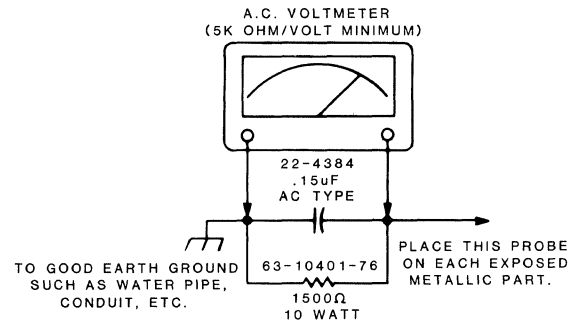

Figure 3
1. Connect the test circuit as shown in Figure 3.